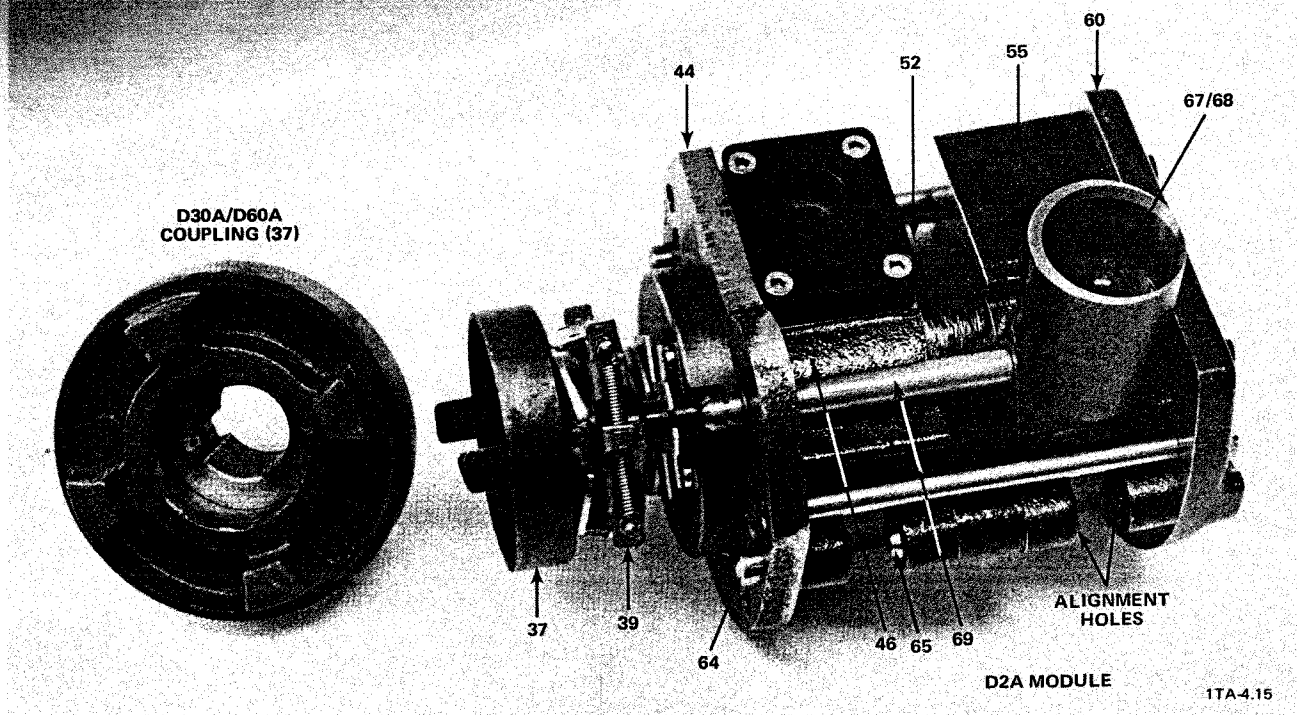
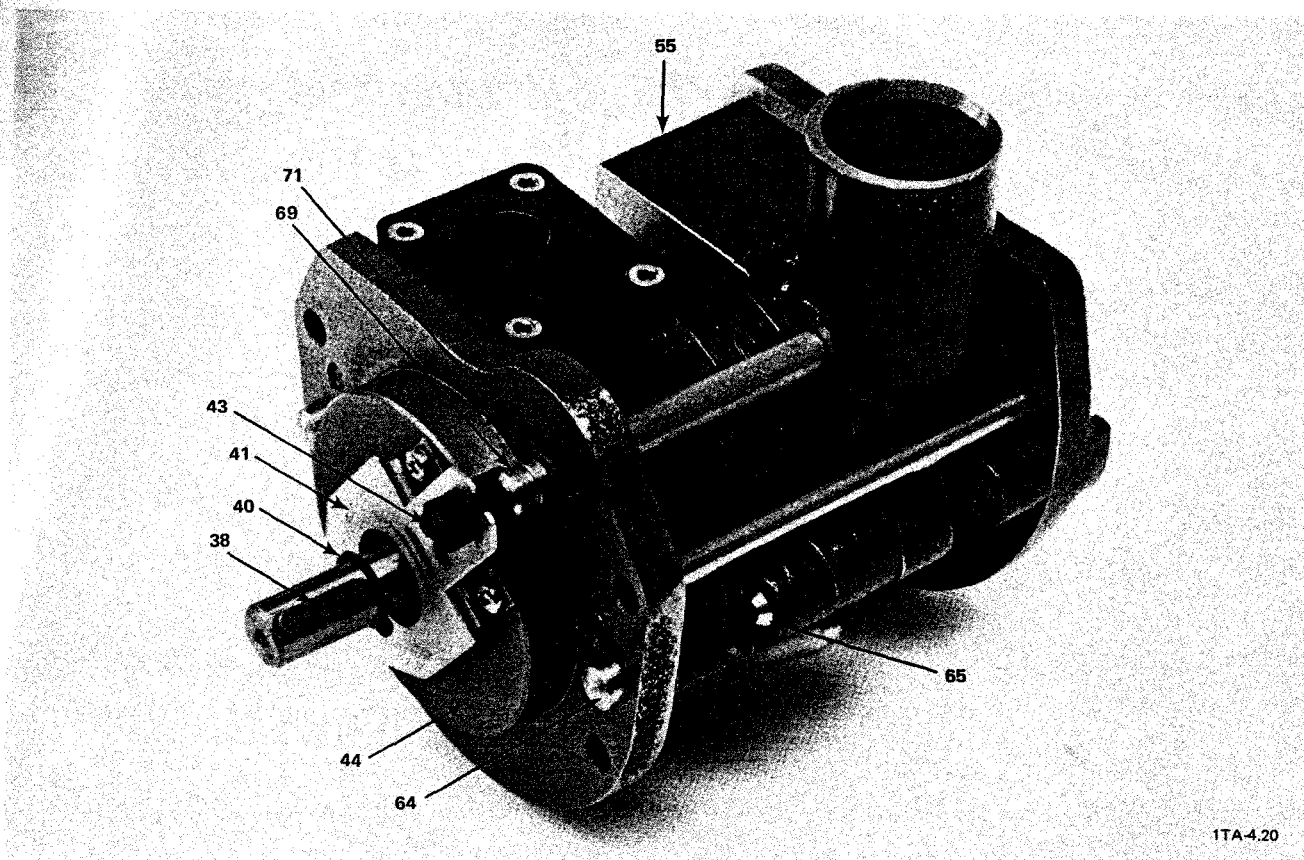

Figure 5-3. Module, Side View (D2A Pump Model Shown)
Figure 5-4. Front End of Module Minus Coupling and Centrifugal Switch (D2A Pump Model Shown)
*The module is the unit made up primarily of the shaft, rotors, vanes, coupling, centrifugal switch, end plates, pump cylinders, and center bearing. Figure 5-3 shows a module.
CAUTION: USE CARE WHEN HANDLING THE MODULE TO AVOID BENDING THE LEVER (41) OR CENTRIFUGAL SWITCH (39) (see Figures 5-3 and 5-4).
- C-1 Using a large pair of long nose pliers, pull the valve disk (67) and attached brass piston (68) out of the intake portion of the high vacuum pump cylinder (55) (see Figures 5-3 and -11).
- C-2 CAUTION:** IF A PULLER IS USED TO REMOVE THE COUPLING (37), BE CAREFUL TO AVOID DAMAGING THE CENTRIFUGAL SWITCH (39).
Using a small screwdriver, loosen the setscrew that secures the coupling (37) to the shaft. Pull the coupling off of the shaft (see Figure 5-3).
- C-3** Using small diagonal cutting pliers, pull the coupling key (38) from the slot in the shaft (see Figure 5-4).
- C-4** Using snap ring pliers, remove the retainer ring (40) from the shaft (see Figure 5-4).
- C-5 NOTE:** For use during reassembly, the centrifugal switch end with the split halves faces the coupling (37).
For the D2A, D4A, D8A, and D16A models only, loosen the one or two setscrews that secure the centrifugal switch (39) to the coupling (37) (see Figure 5-3).
- C-6** Using a phillips screwdriver, unscrew and remove the two screws that attach the lever to the front end plate. When removing the lever (41), hold its opposite end down to avoid losing the spring (42) from the penetration in the front end plate (44). Remove the lever (41) and spring (42) from the plate (44) (see Figure 5-4).
- C-7** Using a small screwdriver, remove the retainer disk (71) from the slot in the air inlet (69) tube (see Figure 5-4).
- C-14 Pull the air inlet tube (69) from the front end plate (44) or high vacuum stage pump cylinder (55). (See Figures 5-3 and 5-8.)